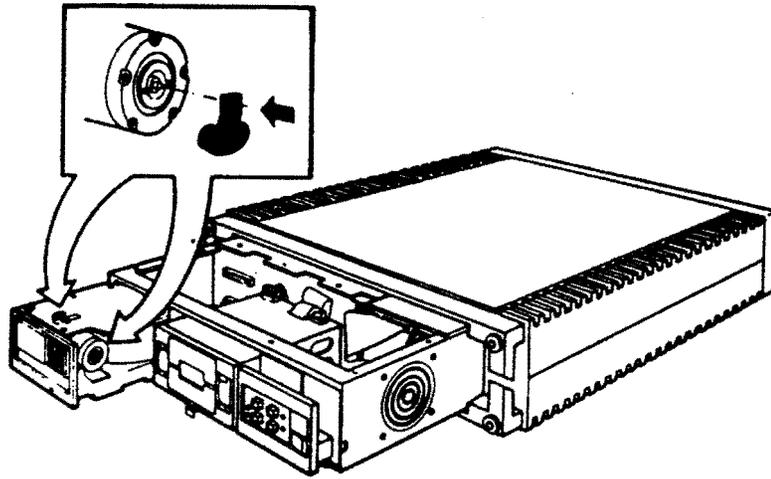

Figure 4-13: RD52 Head Positioning Arm Cover Replacement
4. Replace the red plastic cover on the head positioning arm (Figure 4-13). (This cover should have been removed and taped to the top of the drive during installation.)